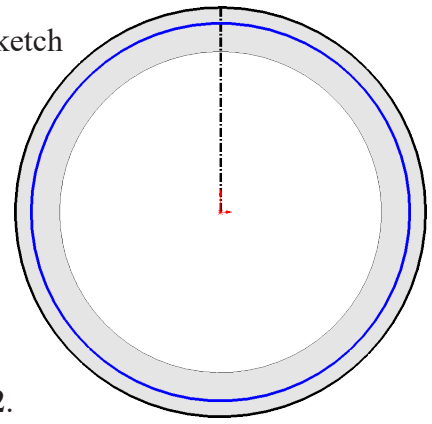

Fig. 11
Step 8. Sketch a **vertical centerline from the Origin**  up to **converted edge**, **Fig. 11**.